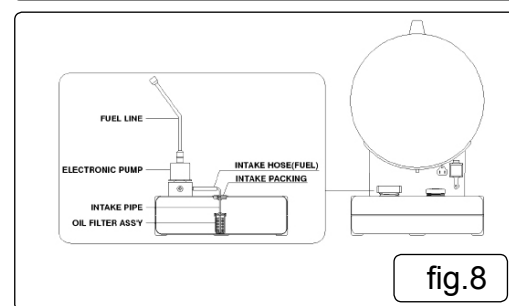

fig.8
6.6.1. The fuel filter and oil filter should be cleaned at least twice per heating season by rinsing it in clean paraffin or diesel. Contaminated or old fuel could make cleaning necessary immediately fig.8.